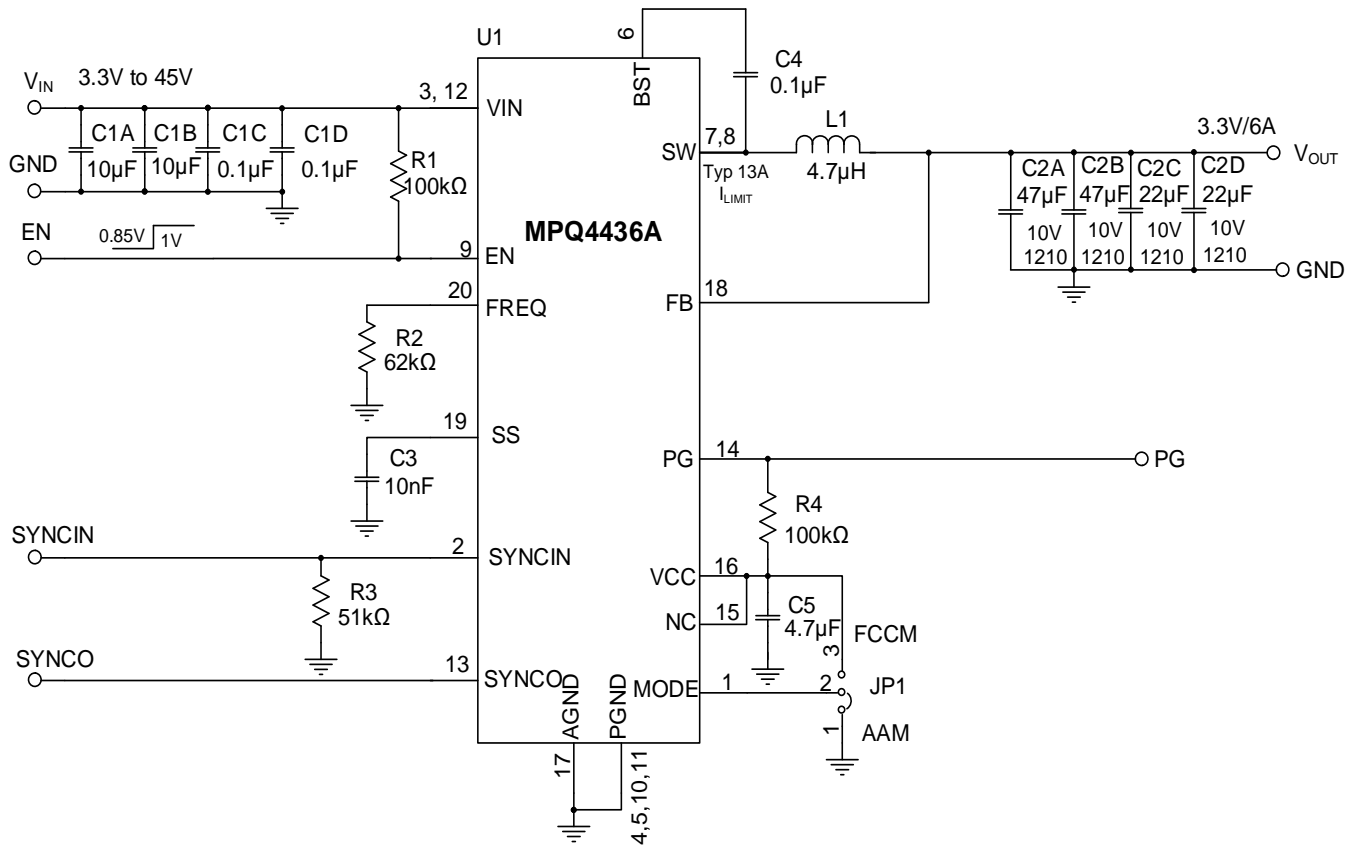

Figure 10: $V_{OUT} = 3.3V$, $f_{SW} = 470kHz$
- 8) The recommended PCB layout is based on Figure 10 on page 35.